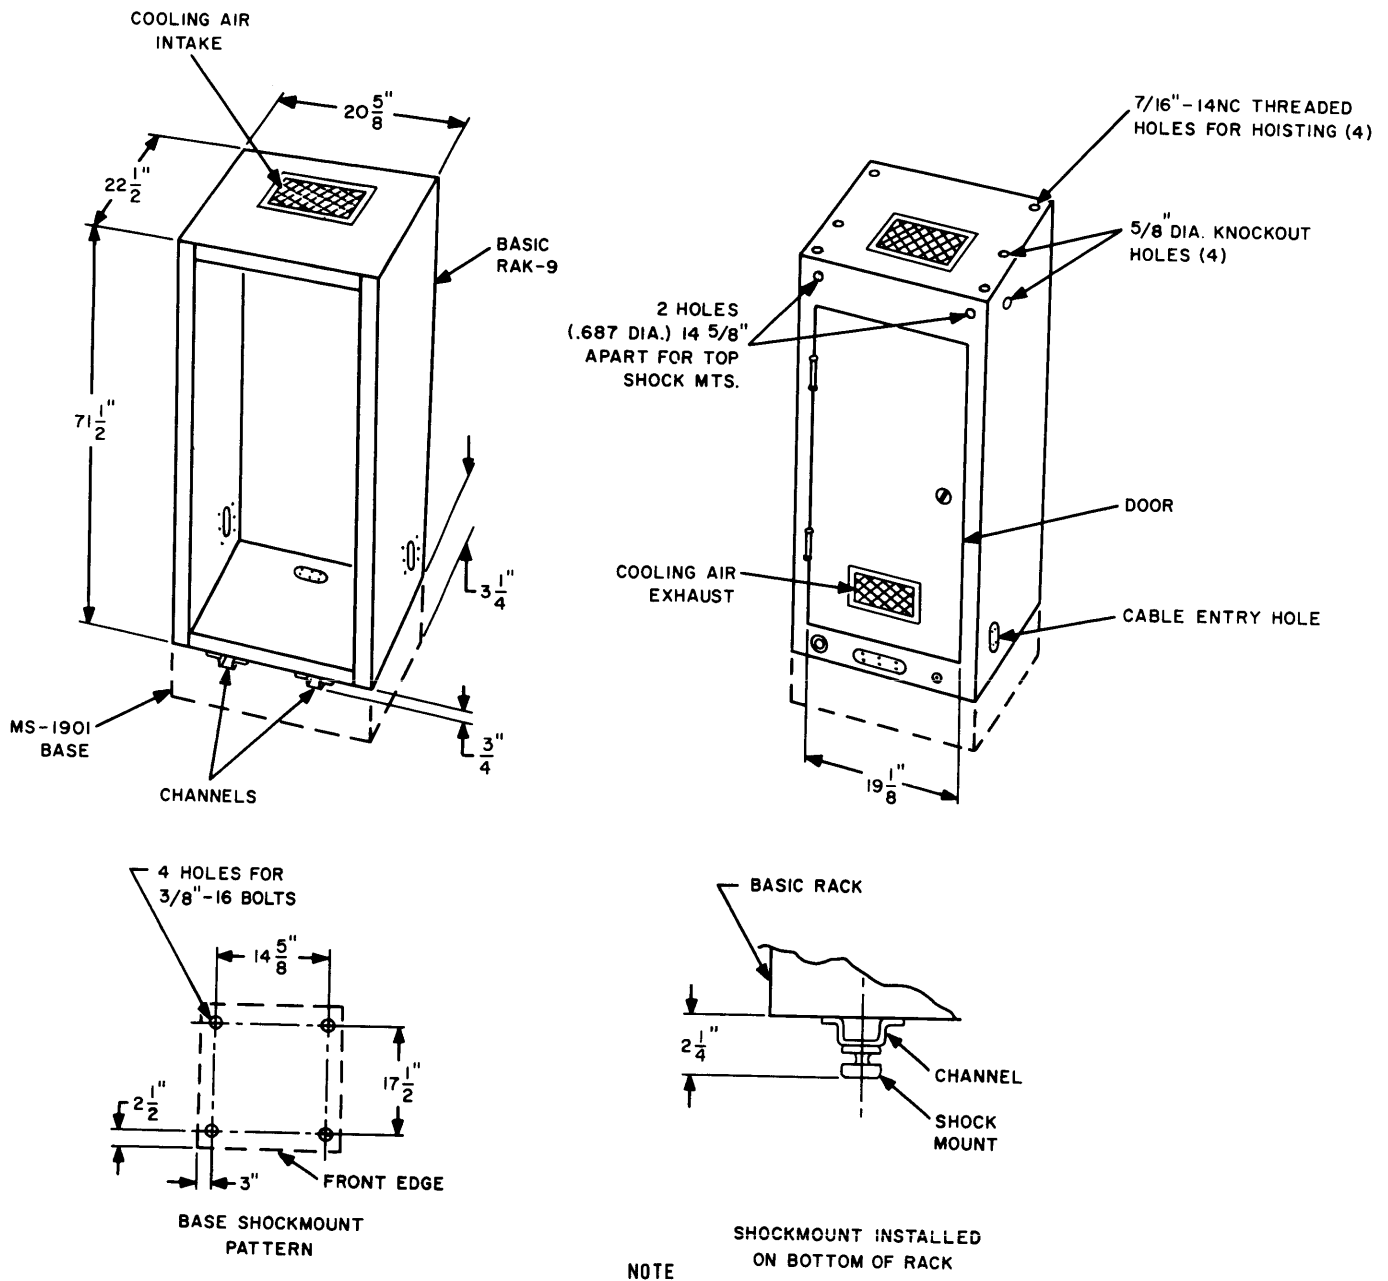

Figure 2-4. Outline Dimensional and Installation Drawing
a. LOCATION OF TRANSMITTER - Before attempting to install the transmitter ensure that adequate power (paragraph 2-2) is available at the selected site or location. Refer to outline dimensional drawing figure 2-4 when choosing the operating location. The room (or van) in which the transmitter is located must have a ceiling height of at least 7 feet. Adequate ventilation must be provided; operation of the transmitter in a poorly ventilated room will cause the surrounding temperature to become too high. Also, a clearance of about two feet at the rear of the rack is needed for opening the door.